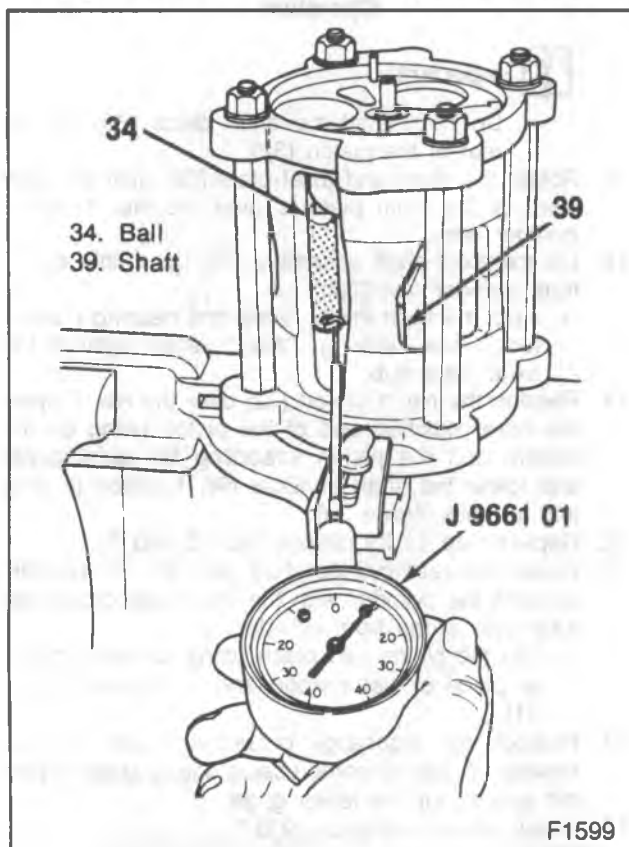

Figure 32—Gaging the Rear Piston Ball
- c. Pull on the spring scale to slide the feeler gage stock out from between the ball and axial plate. Note the reading on spring scale as the feeler gage is sliding out (figure 32). The reading should be between 1.1 and 2.2 N (4 and 8 ounces).